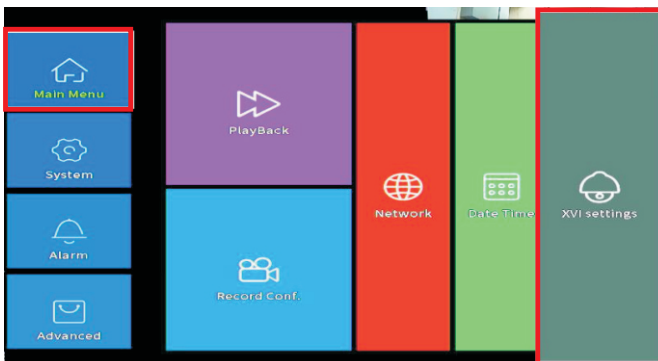

Figure 3. Click on XVI Settings
3. Go back to **Main Menu** and click on **XVI Settings**. See Figure 3.